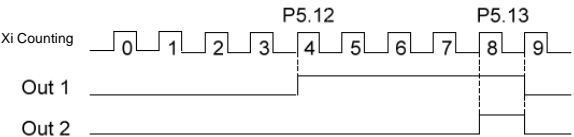

Fig.6-18 Schematic diagram for the preset and reaching counting value reference
2. The terminal Yi is set to "10: Preset counting value action", and the action sequence is shown as Out1 in Fig.6-18. Effective level will be output when the counting value is between the values of P5.12 and P5.13.
The terminal Yi is set to “11: Reaching counting value action”, and the action sequence is shown as Out2 in Fig.6-18. Effective level will be output and kept till the counting value changes when the counting value reaches the value of P5.13.